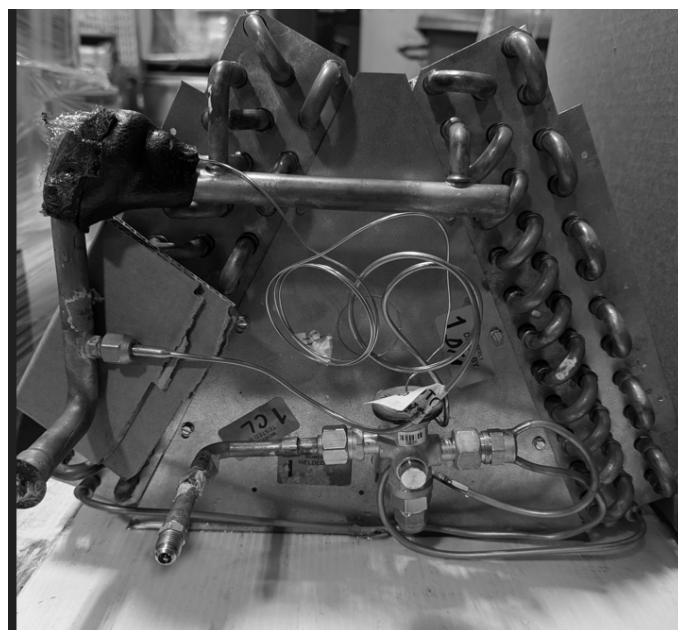

Figure 6 Complete TXV Assemble
- 10) Insulate the TXV bulb with the black tacky tape, once installed. Figure 6
- 13) See Figure 6 for an example of a completed HCX TXV assembly.